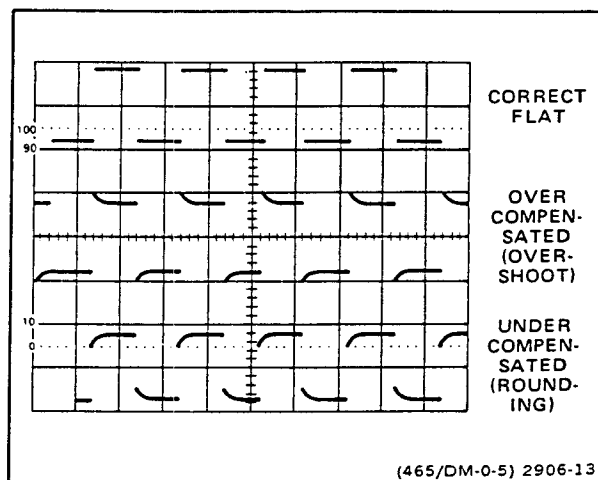

Figure 2-14. Probe compensation.
6. Check the waveform display for overshoot and rounding (see Figure 2-14); if necessary, use a small-bladed screwdriver to adjust the probe compensation for a square front corner on the waveform.
12. Check the waveform display for overshoot and rounding (see Figure 2-14); if necessary, use a small-bladed screwdriver to adjust the probe compensation for a square front corner on the waveform.